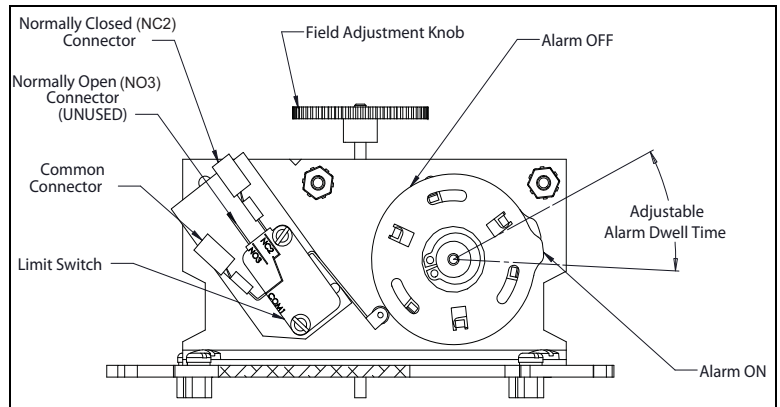

Figure 5-5: Dwell on Cams
4. Turn the cam until the switch activates with an audible click (see Figure 5-5).